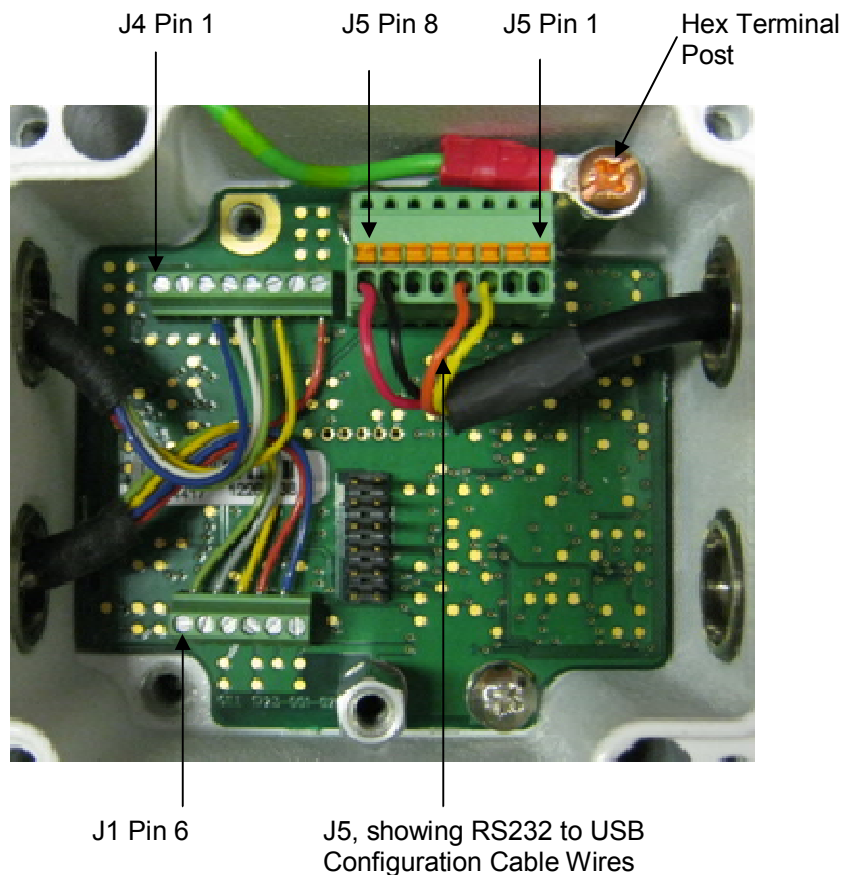

Figure 3 Internal view of the hub box
2. Locate connector J5 (see Figure 3). Carefully pull the connector off its circuit board pins.
6. Attach the cable's screen wires to the terminal post (see Figure 3).
2. Locate connector J8 (see Figure 3).